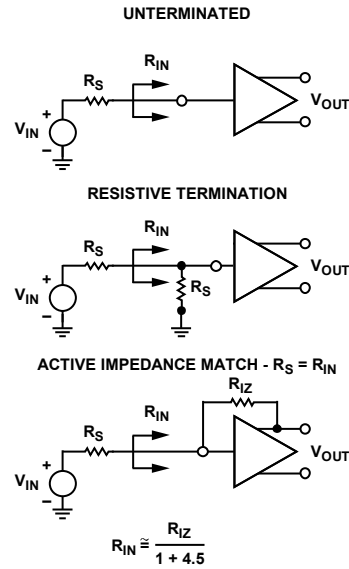
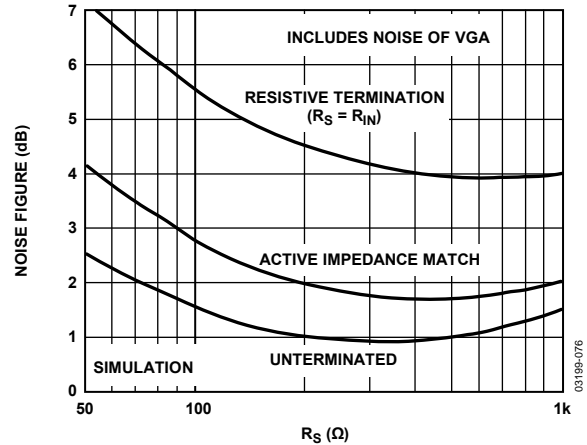
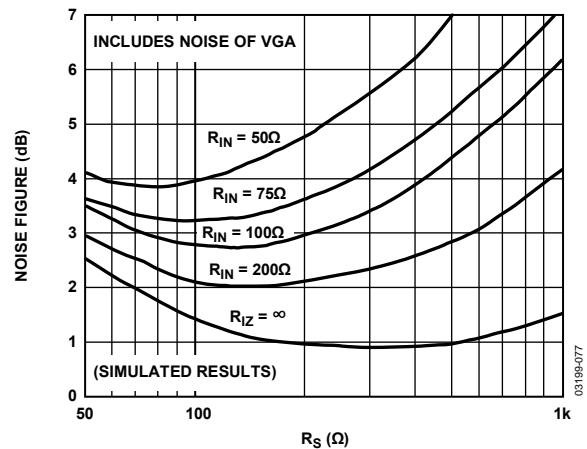

Figure 75. Input Configurations
Figure 76. Noise Figure vs. R_S for Resistive, Active Match, and Unterminated Inputs
Figure 77. Noise Figure vs. R_S for Various Fixed Values of R_{IN} , Actively Matched
The input-referred voltage noise sets an important limit on system performance. The short-circuit input voltage noise of the LNA is $0.74\text{ nV}/\sqrt{\text{Hz}}$ or $0.82\text{ nV}/\sqrt{\text{Hz}}$ (at maximum gain), including the VGA noise. The open circuit, current noise is $2.5\text{ pA}/\sqrt{\text{Hz}}$. These measurements, taken without a feedback resistor, provide the basis for calculating the input noise and noise figure performance of the configurations in Figure 75. Figure 76 and Figure 77 show simulations extracted from these results and the 4.1 dB noise figure (NF) measurement with the input actively matched to a $50\ \Omega$ source. Unterminated ($R_{IZ} = \infty$) operation exhibits the lowest equivalent input noise and noise figure. Figure 76 shows the noise figure vs. source resistance, rising at low R_S , where the LNA voltage noise is large compared to the source noise, and again at high R_S due to current noise. The VGA input-referred voltage noise of $2.7\text{ nV}/\sqrt{\text{Hz}}$ is included in all of the curves.
The primary purpose of input impedance matching is to improve the system transient response. With resistive termination, the input noise increases due to the thermal noise of the matching resistor and the increased contribution of the LNA input voltage noise generator. With active impedance matching, however, the contributions of both are smaller than they would be for resistive termination by a factor of $1/(1 + \text{LNA Gain})$. Figure 76 shows their relative NF performance. In this graph, the input impedance is swept with R_S to preserve the match at each point. The noise figures for a source impedance of $50\ \Omega$ are 7.1 dB, 4.1 dB, and 2.5 dB, respectively, for the resistive, active, and unterminated configurations. The noise figures for $200\ \Omega$ are 4.6 dB, 2.0 dB, and 1.0 dB, respectively.
Figure 77 is a plot of NF vs. R_S for various values of R_{IN} , which is helpful for design purposes. The plateau in the NF for actively matched inputs mitigates source impedance variations. For comparison purposes, a preamp with a gain of 19 dB and noise spectral density of $1.0\ \text{nV}/\sqrt{\text{Hz}}$, combined with a VGA with $3.75\ \text{nV}/\sqrt{\text{Hz}}$, yields a noise figure degradation of approximately 1.5 dB (for most input impedances), significantly worse than the AD8331/AD8332/AD8334 performance.